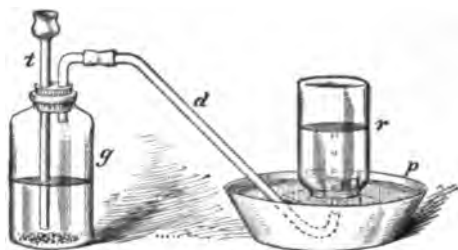

FIG. 18. — Hydrogen Apparatus.
7. Fit up a flask, delivery tube, and pneumatic trough, as shown in Fig. 18. The flask need not have a capacity of more than 100 cc. or 150 cc. Put into it about 8 g. of granulated zinc, and nearly cover with water. Now add slowly a little concentrated sulphuric acid, and, if you are not using a cork with thistle tube,